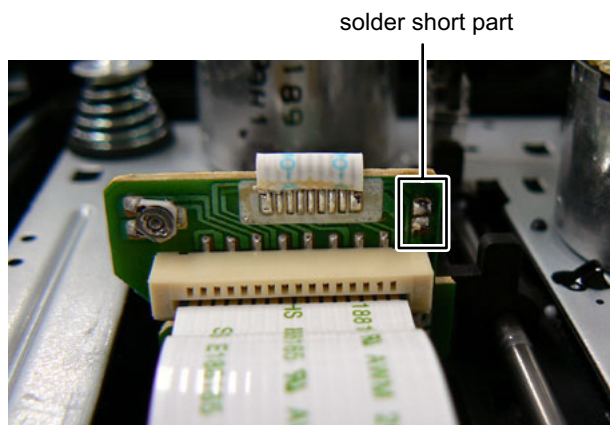

Fig.10
- (5) Solder the solder short part of the pickup. (See Fig.10)